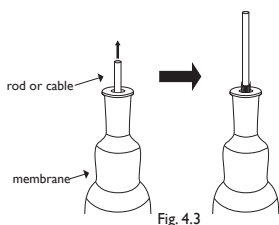

Fig. 4.3
8. Pull the rod and hanger up through the membrane until the top of the hanger is protruding from the top of the membrane (fig. 4.3).